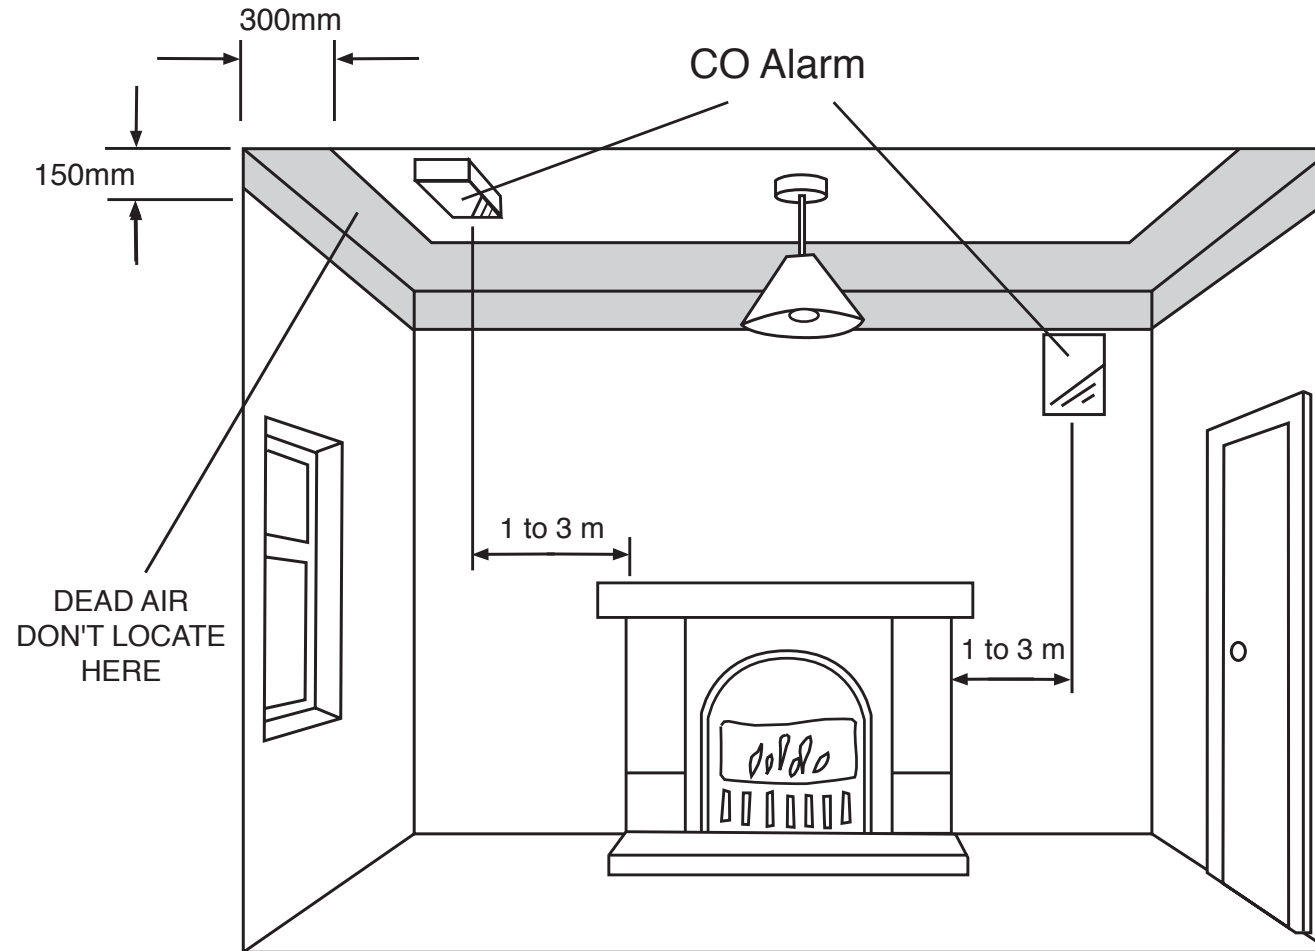

Figure 1. Location in room with a fuel burning appliance
3.3 IF LOCATING THE CO ALARM IN A ROOM WITH A FUEL BURNING APPLIANCE (see *Figure 1*)
The unit can be tested with CO by using one of the kits that comes with CO either in a glass phial or aerosol can. Follow the instructions on the kit but be sure to press the Test/Hush button to speed up the CO sampling **directly** after you expose the unit to the CO. It is best if possible to inject the CO gas into the gas entry holes (see *Figure 1*). When it senses the CO it will give 3 beeps and the red light will flash as per Table B. It then automatically resets to normal mode. (If unit fails to respond, press the Test/Hush button again as gas can take some seconds to enter sensor).
- (1) Disconnect the mains supply to the CO Alarm circuit at the distribution/fuse board.
- (2) Remove tamperproofing screw if fitted (see *Figure 1*).
- (3) Release catch (as shown in *Figure 1*) and slide unit off mounting plate.